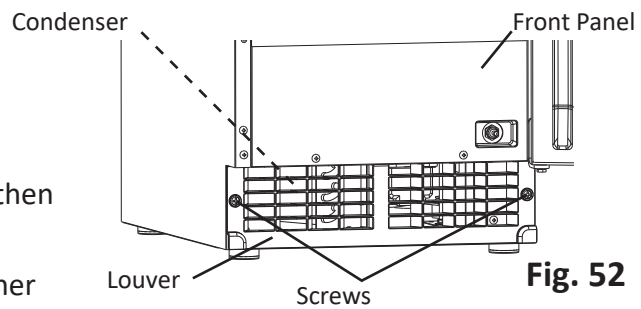

Fig. 52
- 2) Remove the panel. See Fig. 52.